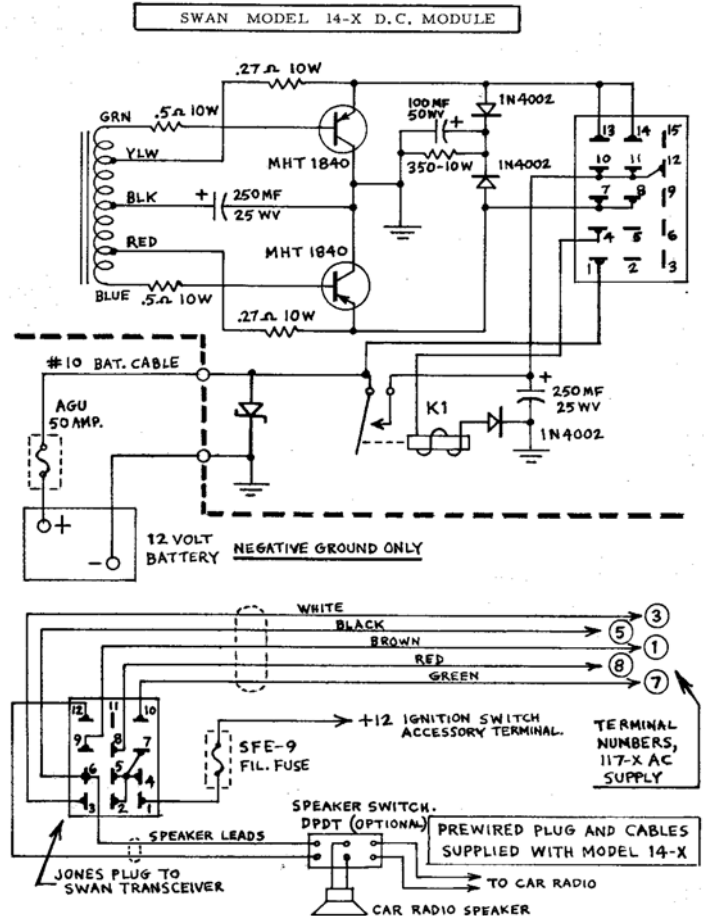

FIG. 8 MODEL 14-X D.C. MODULE
- (A) Connect the primary leads from the power supply directly to the battery terminals. Mount the ceramic fuse block with 50 amp. fuse in series with the positive lead. (With positive ground systems, the fuse goes in the negative lead). If possible, drill and tap a hole in the battery post itself for a contact stud. The more intimately the supply is connected to the battery, the less chance there is for voltage transients to reach it. Solder lugs are provided for the ends of the various leads.
- (B) The filament line comes prewired to the Jones plug, and has an in-line 9 amp. fuse. Connect this line to the ignition switch accessory terminal, as recommended in the schematic, Fig. 8. In most cars the 12 volts at this terminal is switched off while twisting the ignition key to start the engine. Thus, the relay in the power supply will also be switched off, and the transistors will not be subjected to the sharp transients put out by the starter motor. NOTE: The car radio is normally connected to the accessory terminal for the same reason. It may be more convenient to locate the 12 volt line going to the car radio, and splice into it with the transceiver filament line. Look for